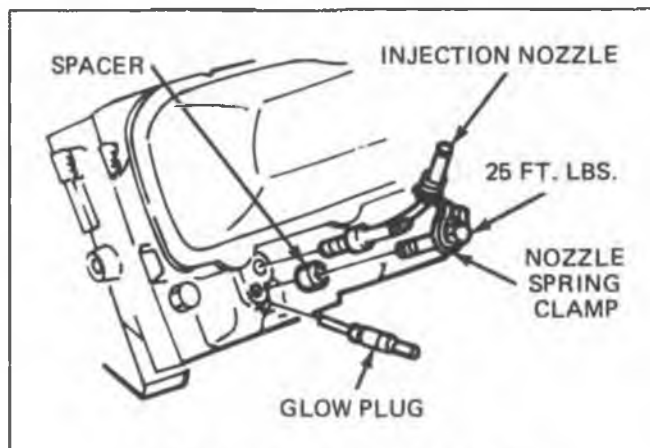

Fig. 5-23 Injection Nozzle Installation
2. Remove protective caps then install injection nozzle and spring clamp and spacer. Torque bolt to 25 ft. lbs. (34 N·m) (Fig. 5-23).